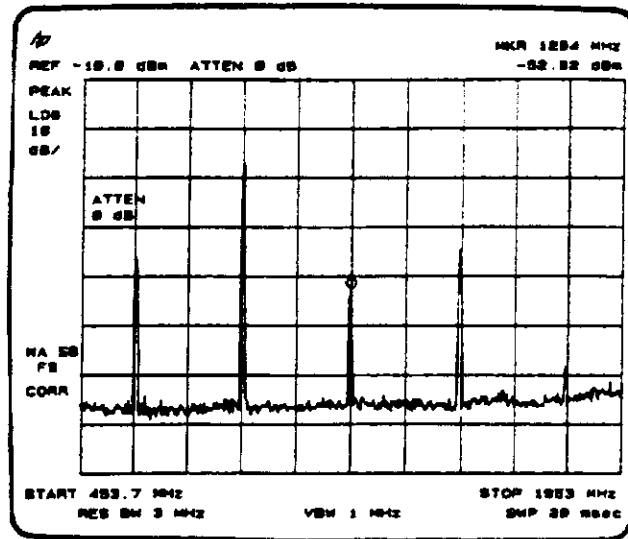

Figure 2-10
1. Connect the CAL OUTPUT signal to the RF INPUT. (The calibration signal does not exceed the maximum power level.) Press **[PRESET]**, then **[PEAK SEARCH]**. Press **[NEXT PK RIGHT]** until the marker is placed on the low signal peak at the right side of the screen. See Figure 2-10.